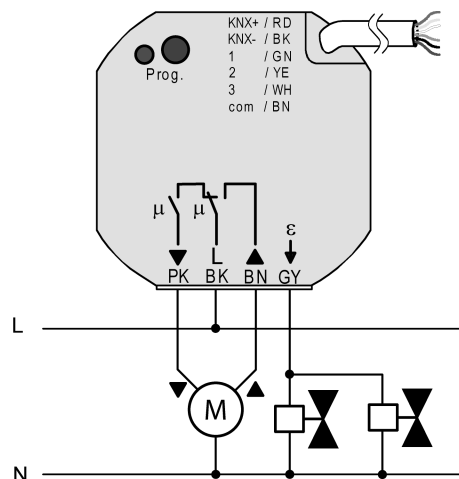

Figure 4: Connection of the mains voltage and the load
- (4) Device box (e.g. electronics box)
- (5) Partition
- (6) Series switch
- (7) Potential-free contact, e. g. window contact
- Connect the mains voltage, Venetian blind drive and electrothermal actuators using the included screwless terminals (Figure 4).